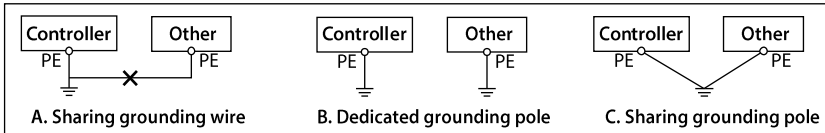

Figure 5-7 Recommended earthing method
The grounding terminal PE must be connected to ground properly. The ground cable should be as short as possible (the grounding point should be as close to the controller as possible) and the grounding area should be as large as possible. The grounding resistance should be less than 10Ω . Do not share the ground cable with other devices (A). NL3000 can share grounding pole with other devices (C). It achieves the best effect if NL3000 and other devices use dedicated grounding poles (B), as shown in Figure 5-7.